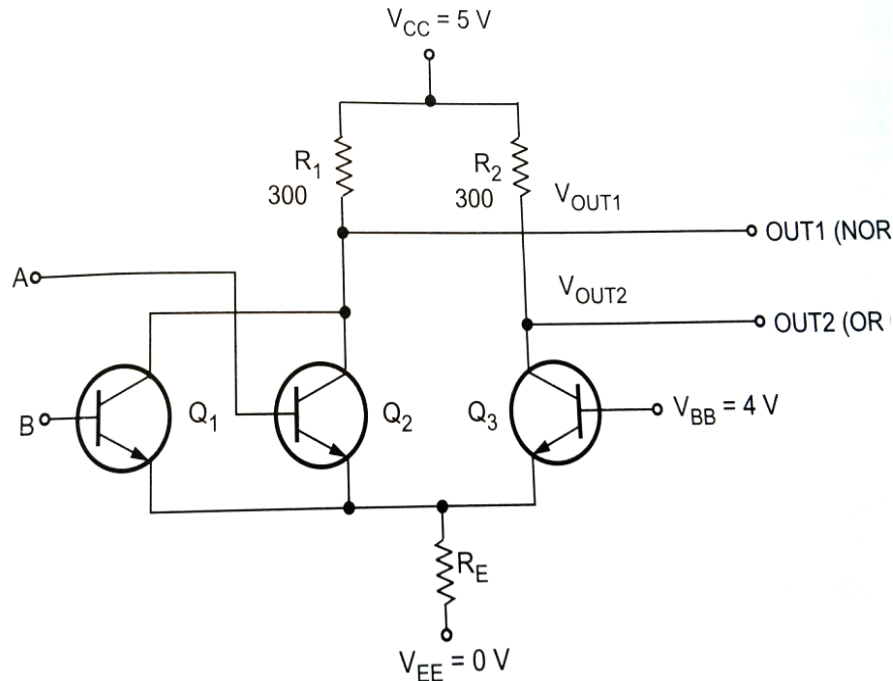

Figure 1.34: 2-input ECL OR/NOR gate
- Figure 1.34 shows, 2-input ECL OR/NOR gate and its logic symbol. There is an additional transistor in parallel with Q1 as compared to ECL inverter.